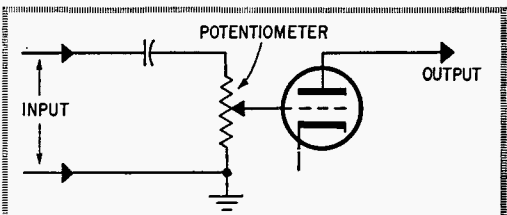
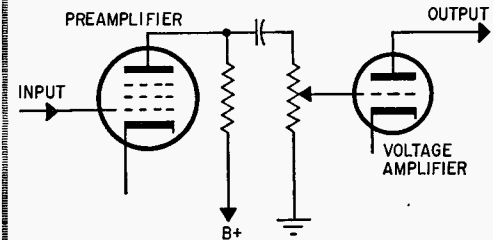

Fig. 1. Simple circuit controls volume or gain.
Fig. 3. Control between stages of amplifier.
**Volume Control.** The most simple volume control of an amplifier, radio or TV set is just a potentiometer connected as shown in Fig. 1. It functions as a voltage divider ahead of the audio amplifier. Potentiometers used as audio volume controls have a resistance element which is not linear since voltage and loudness are not directly proportional. There is a small increase in resistance at the beginning of the clockwise shaft rotation and a faster increase in resistance toward the other end. This taper is known as *audio taper* or *left-hand logarithmic*. If a linear pot is used as a volume control, the change in volume, as far as the ear is concerned, would not be gradual. A linear pot would provide a linear increase or decrease in signal voltage. An audio-taper pot provides a linear increase or decrease in loudness which is loga-
A volume control is often called a *gain* control. It is actually an input level control when it is at the input of an amplifier (as in Fig. 1). It is also a *gain* control since it is used to change the gain (amount of amplification) between the input and the output of the amplifier.
The standard volume control circuit (Fig. 1) is usually at the input of the first stage of the amplifier. However, in some amplifiers it is connected between a preamplifier stage and a voltage amplifier stage, as in Fig. 3. It controls the gain through the stages behind it, but the gain of the preamplifier stage is not affected.